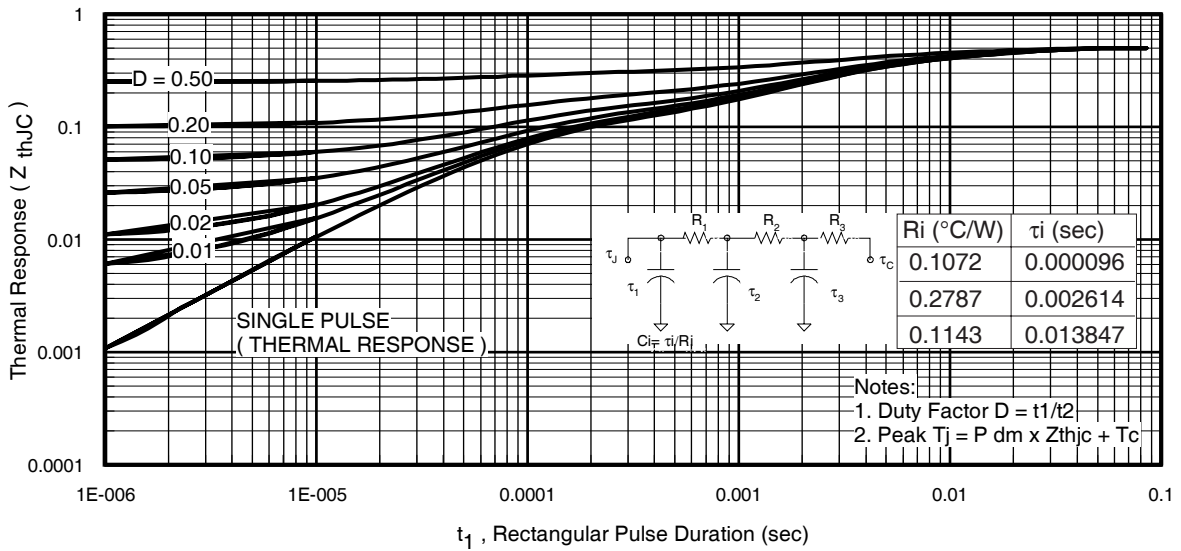
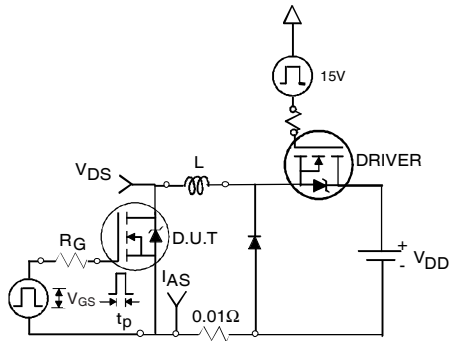

Fig 11. Maximum Effective Transient Thermal Impedance, Junction-to-Case
Fig 12a. Unclamped Inductive Test Circuit
- ① Repetitive rating; pulse width limited by max. junction temperature. (See fig. 11).
- ② Limited by T_{Jmax} , starting $T_J = 25^\circ\text{C}$, $L = 0.026\text{mH}, R_G = 25\Omega, I_{AS} = 110A, V_{GS} = 10V$. Part not recommended for use above this value.
- ③ Pulse width $\leq 1.0\text{ms}$; duty cycle $\leq 2\%$.
- ④ $C_{oss\ eff.}$ is a fixed capacitance that gives the same charging time as C_{oss} while V_{DS} is rising from 0 to 80% V_{DSS} .
- ⑤ Limited by T_{Jmax} , see Fig.12a, 12b, 15, 16 for typical repetitive avalanche performance.
- ⑥ This value determined from sample failure population. 100% tested to this value in production.
- ⑦ This is applied to D²Pak, when mounted on 1" square PCB (FR-4 or G-10 Material). For recommended footprint and soldering techniques refer to application note #AN-994.
- ⑧ R_{θ} is measured at T_J of approximately 90°C .
3. Equation below based on circuit and waveforms shown in Figures 12a, 12b.
$Z_{thJC}(D, t_{av})$ = Transient thermal resistance, see figure 11)